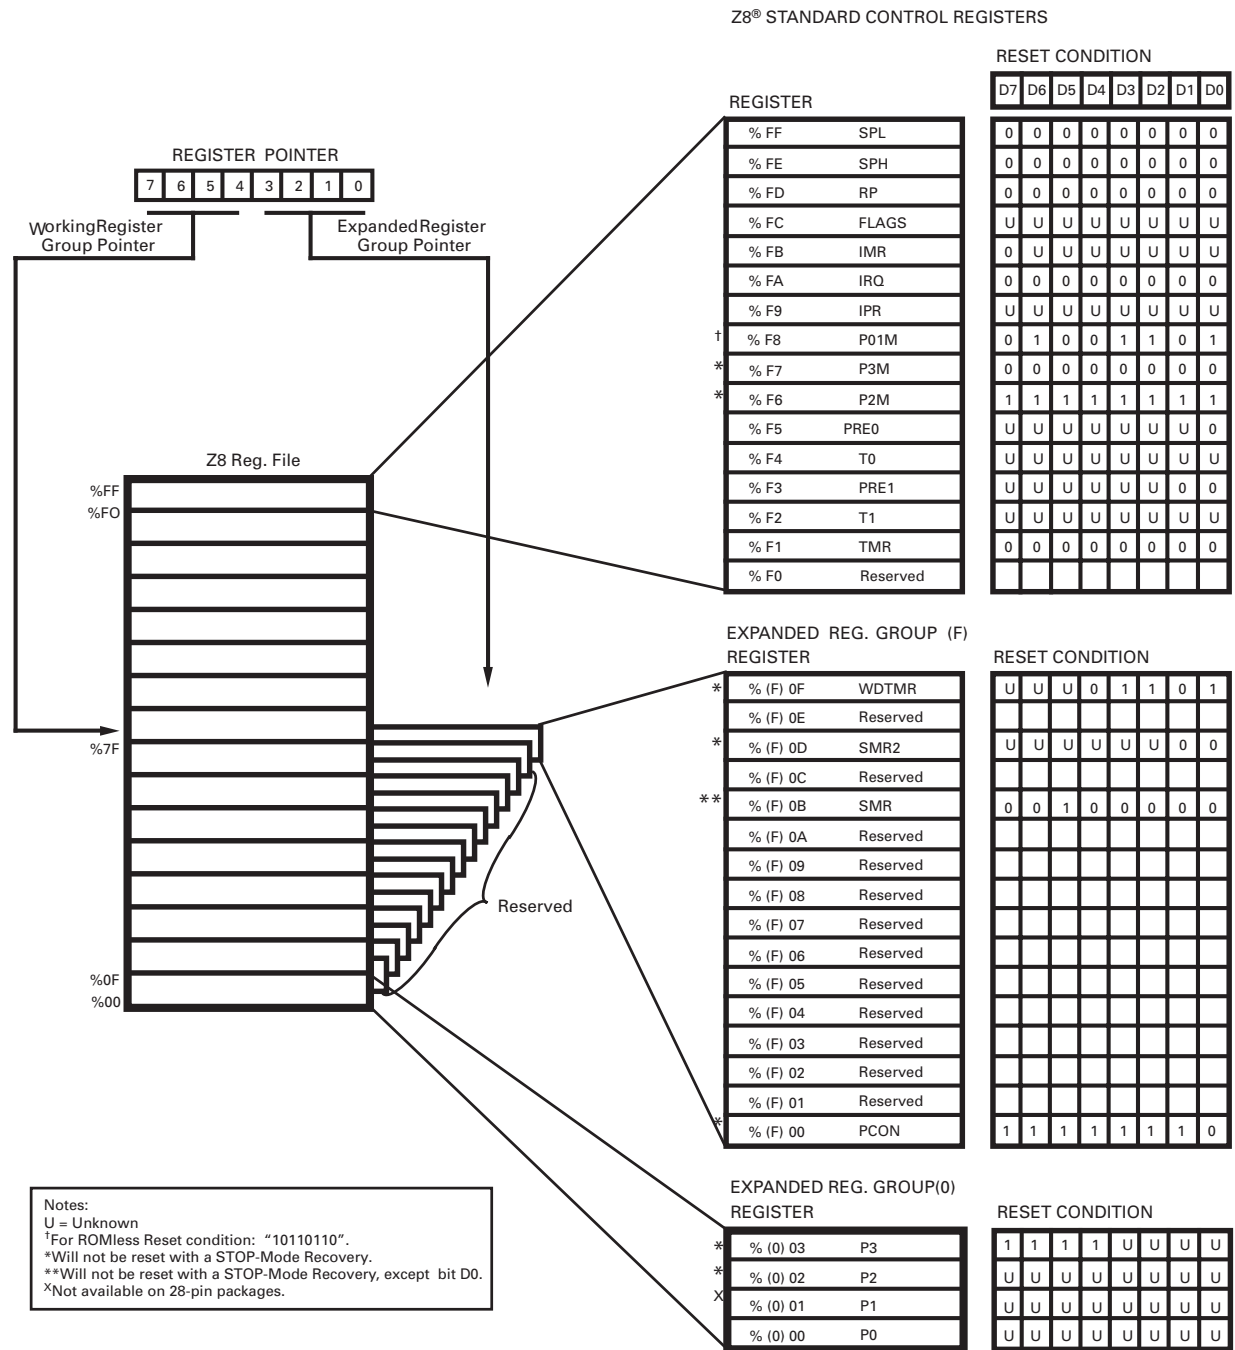

Figure 19. Expanded Register File Architecture
**Expanded Register File (ERF).** The Z8 register file is expanded to allow for additional system control registers, and for mapping of additional peripheral devices along with I/O ports into the register address area. The Z8 register address space R0 through R15 is implemented as 16 groups of 16 registers per group (Figure 19). These register groups are